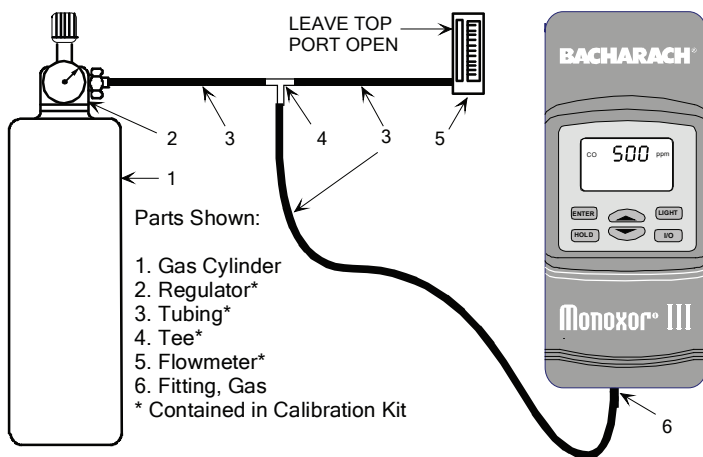

Figure 5-1. Calibration Kit Hookup
6. Connect the tubing of the Calibration Kit to the inlet of the analyzer; then adjust the regulator for approximately 2 SCFH of excess flow (see Figure 5.1).